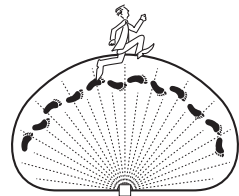

Figure 10
2. Perform a “walk test”: walk in an arc across the front of the motion sensor (see Figure 10).